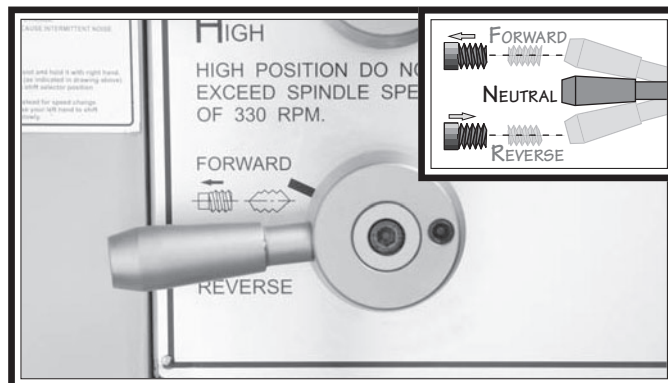

Figure 20. Feed direction forward/reverse lever in the neutral position.
- Move the feed direction forward/reverse lever to the middle (neutral) position, as shown in Figure 20.